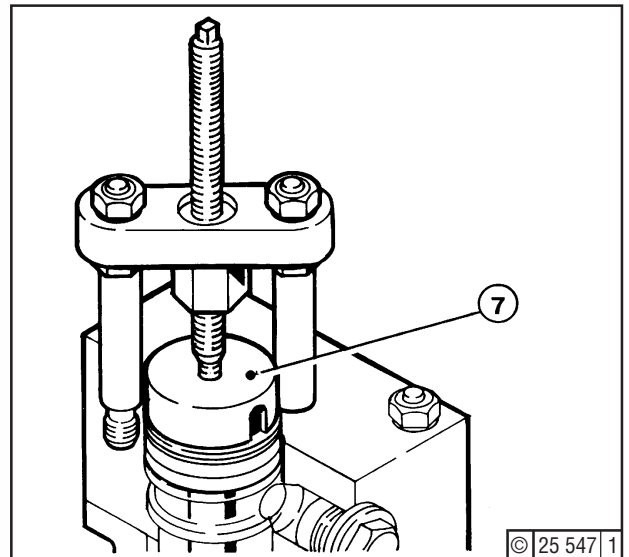

Fig. 5
Then complete assembly device with bush (7) - Fig. 5 - and fit element seal into position.